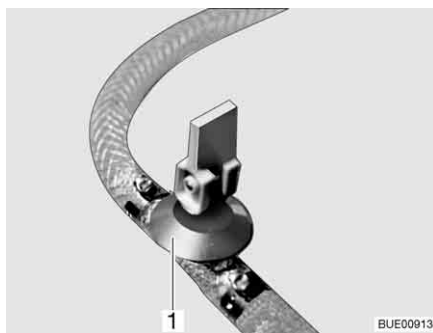
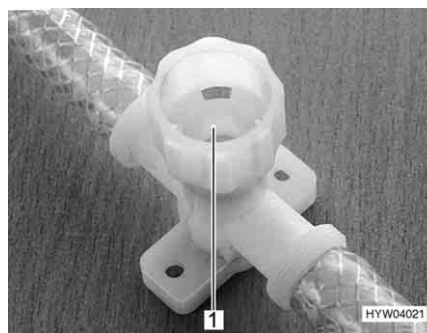

Fig. 244 Drain cock (with rocking lever)
Fig. 245 Drain cock (with twist cap)
- Open all drain cocks. To do this, position the drain cock's rocking lever (Fig. 244, 1) vertically or turn the drain cock's cap (Fig. 245, 1) in an anti-clockwise direction.